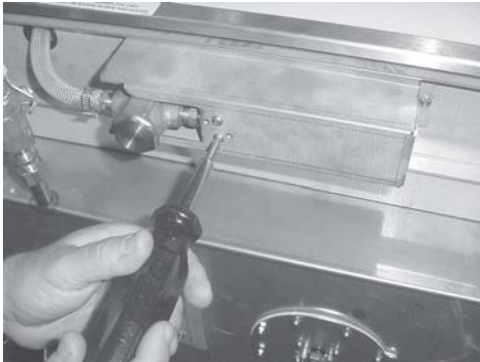

Figure 3-56
3. Using a Phillip's head screwdriver, remove the screws securing the solenoid to the cover. Figure 3-56.